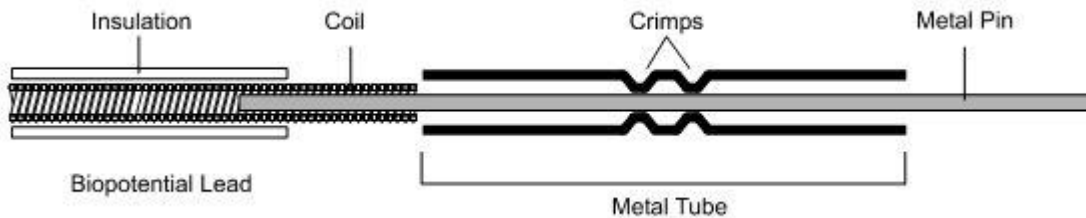

Figure 4: Coupler Assembly with Lead
2. Using the same color of biopotential lead that is pre-coupled, insert the other end of the coupler assembly into the coil. **Caution: The metal pin is sharp. For operator safety, do not push the metal pin into the coil using fingertips.** (See Figure 4)